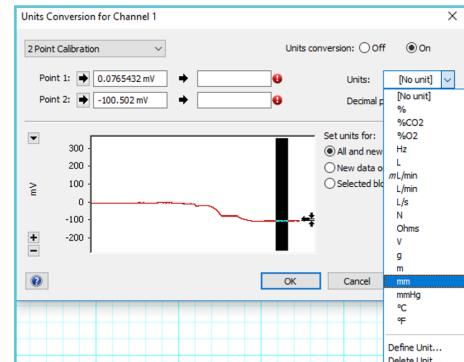

Figure 75.
Step 11: Next, in 'Units', select 'mm' or select 'Define unit' and enter units if your units of choice are not present in the default units drop down menu (figure 75).